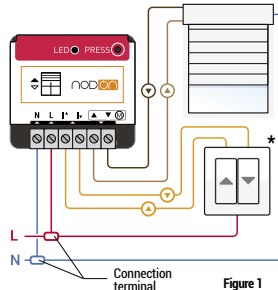

Figure 1
- Câblez le module selon le schéma en figure 1.
- Wire the Relay Switch according to the diagram figure 1.